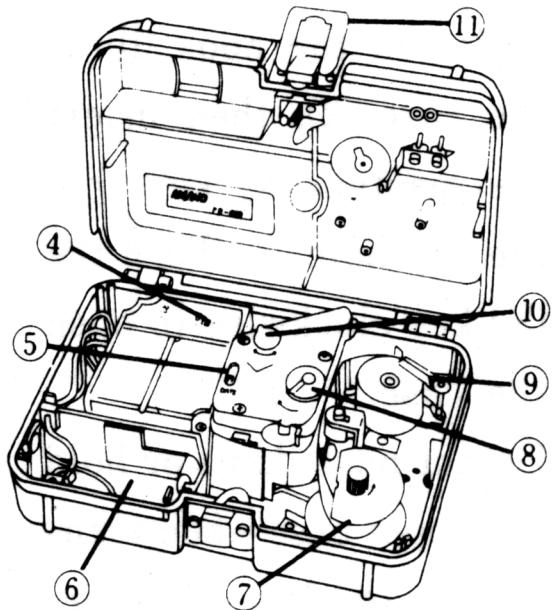

Figure 3.
#### 4. How to Install the Roll Paper (Refer to Fig. 3, & 7).
#### 5. How to Adjust the Date (Refer to Fig. 3, & 7).
- See Fig. 3 for battery case location.